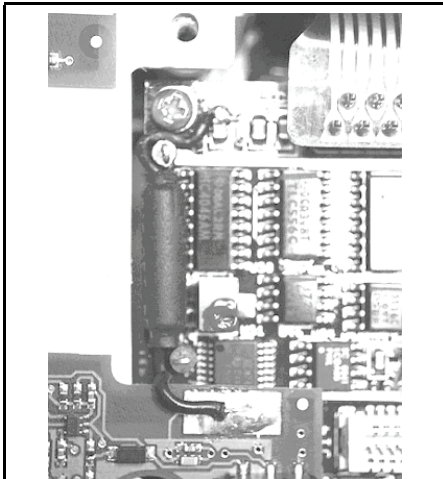

Figure 6-26. Ground Wire Soldering
3. Solder the end of the wire that runs through the Ferrite Bead on the Secondary PCB to the ground wire pad on the DDMM PCBA. See required wire routing in Figure 6-26. Dress the wire under the DDMM PCBA if the wire length is too long.